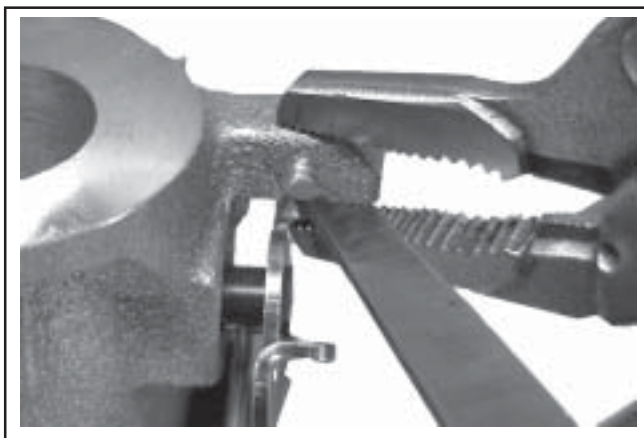

Figure 5B-36. Inserting Feeler Gauge (Engines Without Stop Screw).
- b. On engines without a stop screw, pivot the throttle shaft and plate assembly into the “Full Throttle” position. Insert a **1.52 mm (0.060 in.)** feeler gauge between the tang of the throttle shaft plate and the underside of the manifold boss. Use a locking pliers (needle nose works best) to temporarily clamp the parts in this position. See Figure 5B-36.